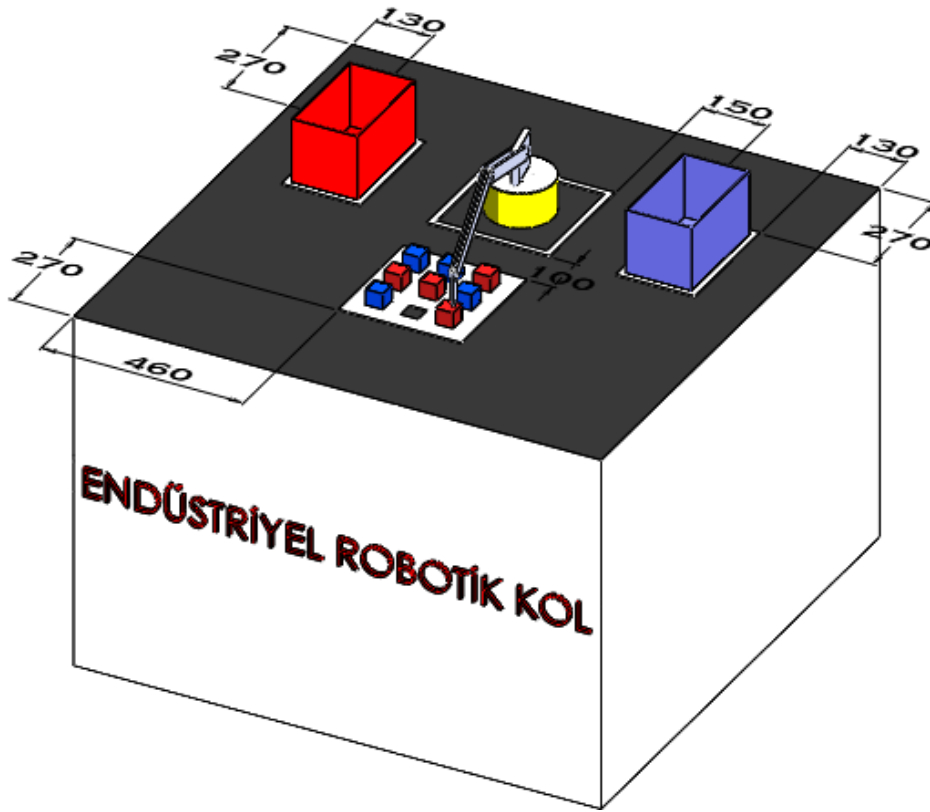
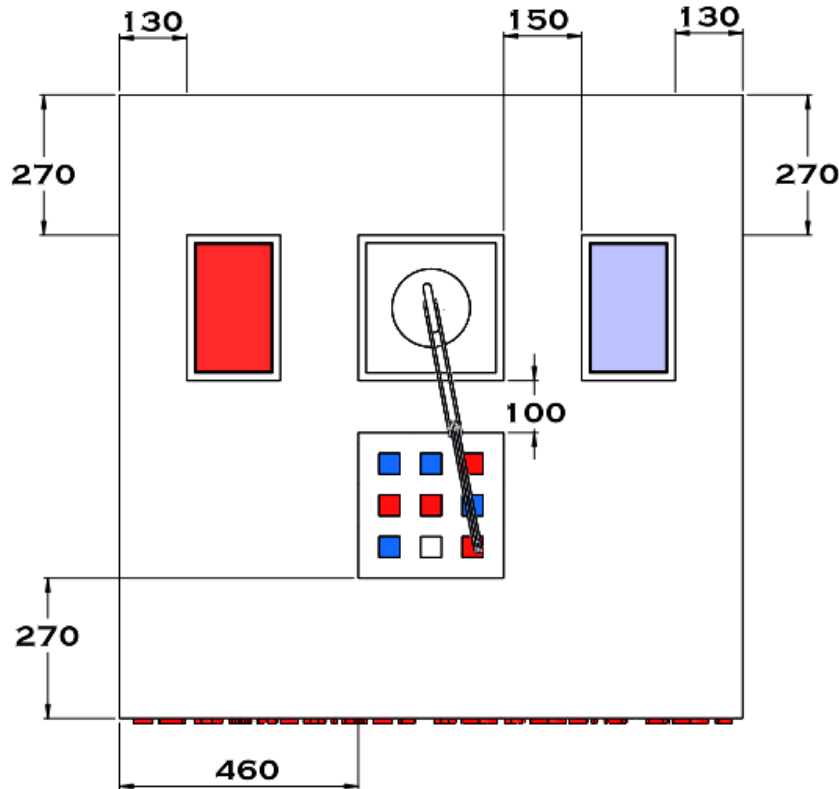

Figure 2: Platform- isometric view
Figure 3: Platform Top view
9. It is essential for robots to drop objects at the correct targets. 20 reward points will be awarded for each object taken from the starting area and 30 reward points if placed in the box of the same color. If the object is placed in a box of a different color, 15 reward points will be given. The arrangement of the objects is given as a representation, and the placement of colored cubes will be done randomly before each contestant during the competition. The robot arm is placed as a representation. Figure 2 and Figure 3 show the robotic arm platform.